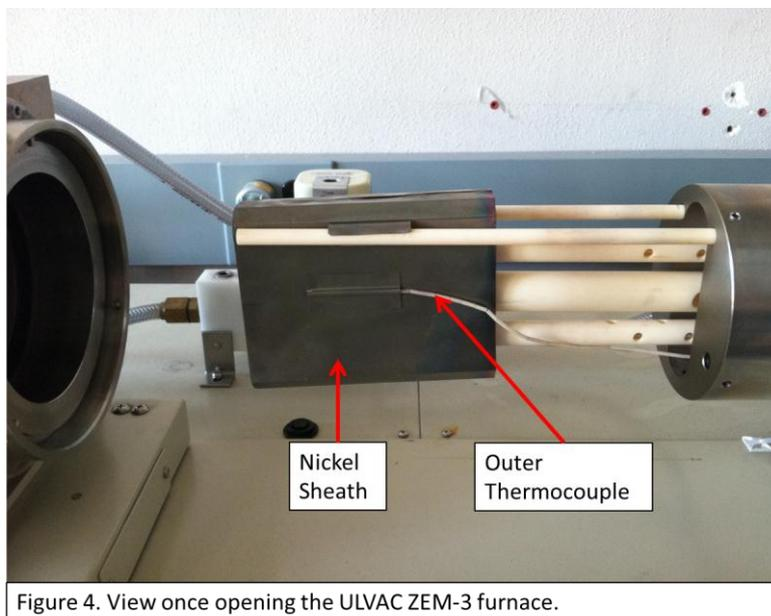

Figure 4. View once opening the ULVAC ZEM-3 furnace.
- To expose the sample holder, carefully remove the outer thermocouple with tweezers from the nickel sheath, and then carefully remove the nickel sheath (see Figure 4).